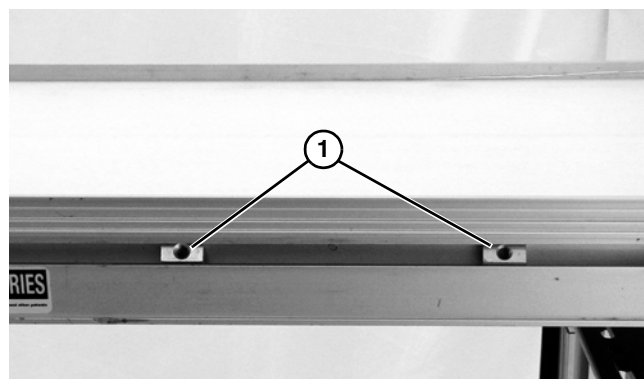

Figure 19
1. Install T-bars (Figure 19, item 1) into slots on side of conveyor frame.